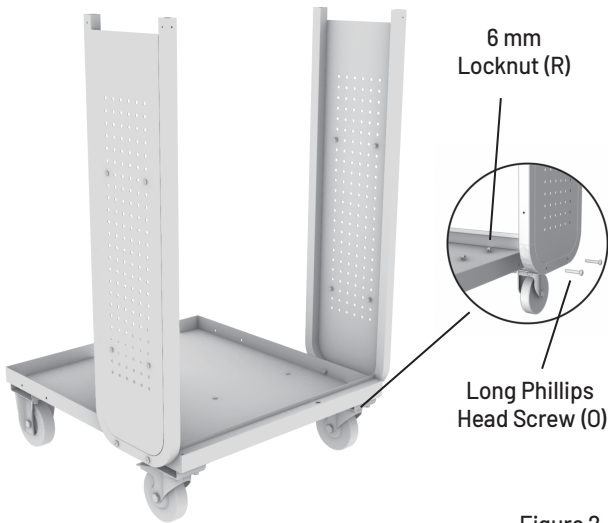

Figure 2
2. Turn the base (A) over onto its casters (K & L) and attach cabinet supports (D) to outside of base (A) using two long Phillips head screws (O) and two 6 mm locknuts (R) per cabinet support (D). (See Figure 2)
**NOTE:** End of cabinet supports (D) with four holes should face center of base (A).